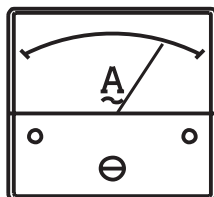

Figure 60. Ammeter (Load)
13. Observe the generator's ammeter (Figure 60) and verify it reads the anticipated amount of current with respect to the load. The ammeter will only display a current reading if a load is in use.